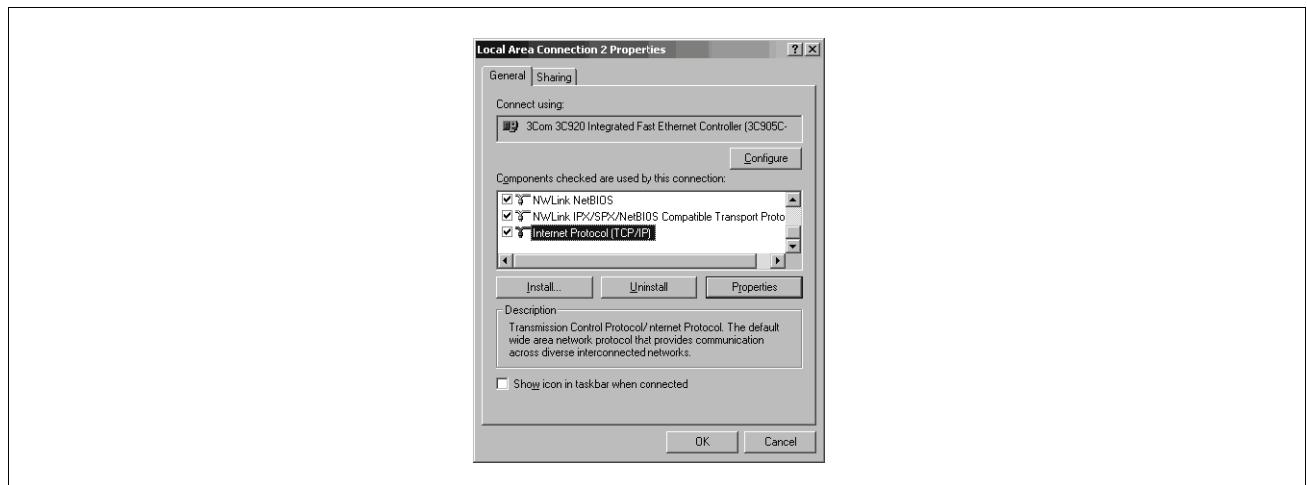

Figure 11. Local Area Connection Properties Screen
3. Click the **Properties** button and the Local Area Connection Properties screen displays (Figure 11).